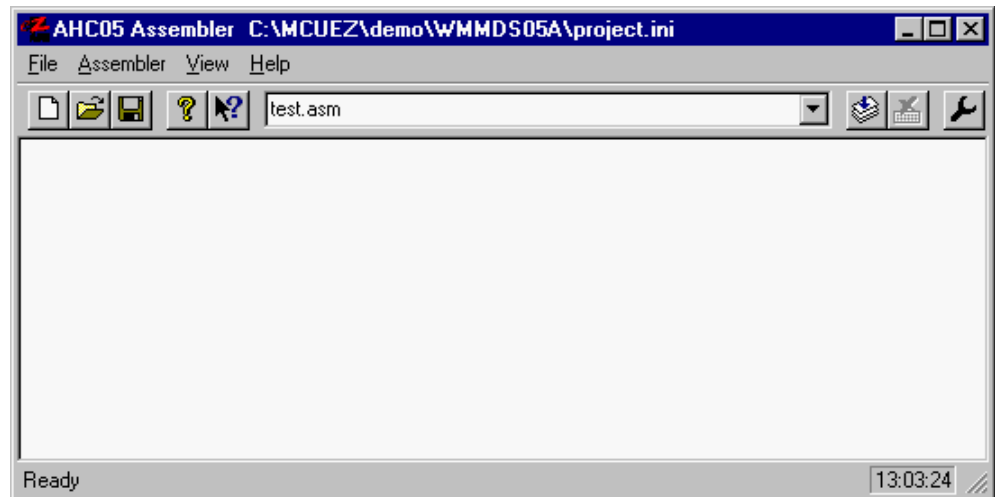

Figure 1-5. Assembler Window
1. Click on the **ezASM** button in the **MCUez Shell** to start the macro assembler. Enter the name of the file to be assembled in the editable combo box as shown in **Figure 1-5**.